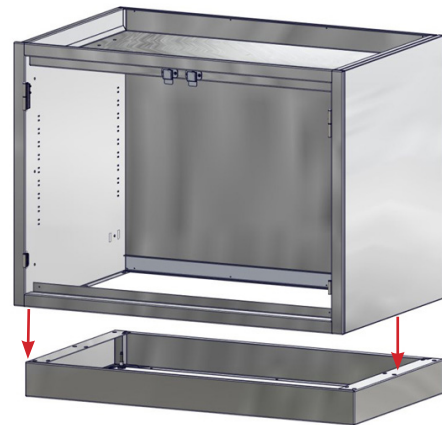

Fig. 11: Mount Cabinet to Base
5. Place the cabinet carefully on the base (Fig. 11).